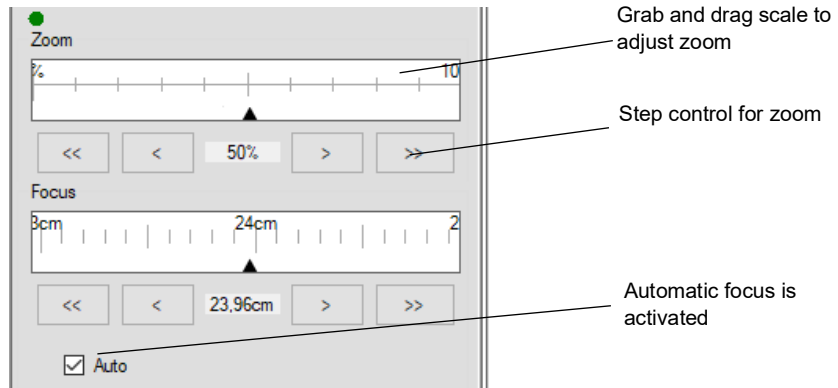

Figure 6-2 Zoom controls.
3. **For PSI with Zoom option only:** Use the zoom control and adjust the positioning of the PeriCam PSI until the desired measurement area is displayed, see Figure 6-2. Focus is normally set automatically (*Auto* check box is selected).